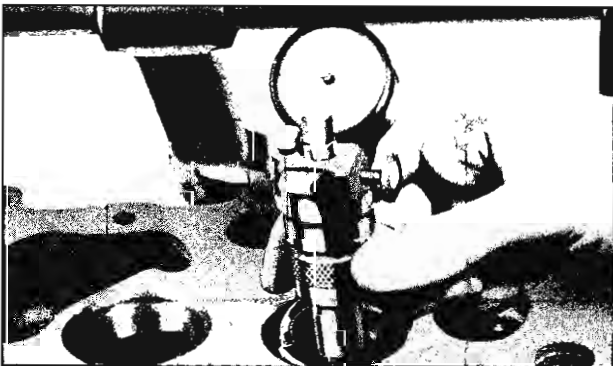

Fig. 12—Checking Valve Seat with Indicator
**NOTE:** Valve seats should be concentric to within .002" total indicator reading (fig. 12).